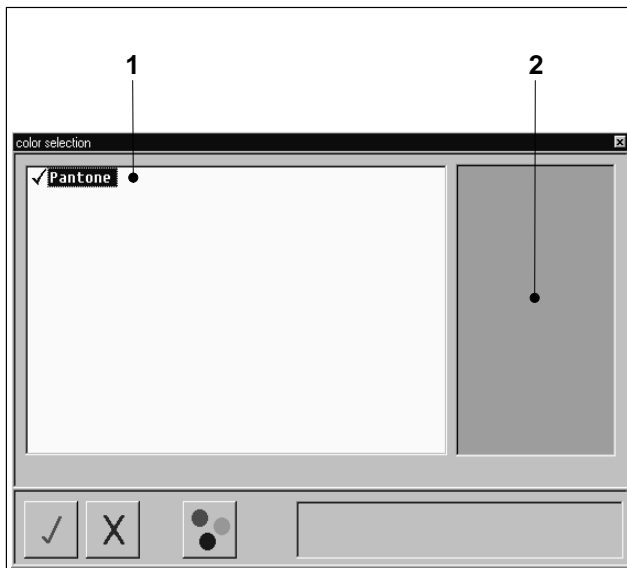

Fig. 13 The *Unknown colors* dialog window
You return to the *Color selection* dialog window. The selected hue is displayed in the preview area (Fig. 13/2).
5. Repeat steps 2 to 4 until all unknown colors in the list (Fig. 13/1) are defined.